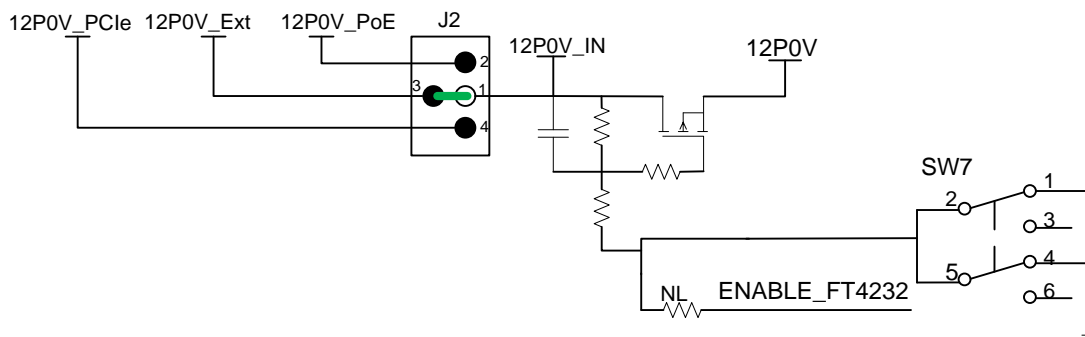

Figure 4. Powering Up the Board
The board can be powered by either one of the three 12 V sources, as shown in Figure 4. Currently, External DC Jack (12P0V_Ext) is only supported.
1. Make sure J2 connector 1 – 3 pads shorted (by default), as shown in Figure 4.